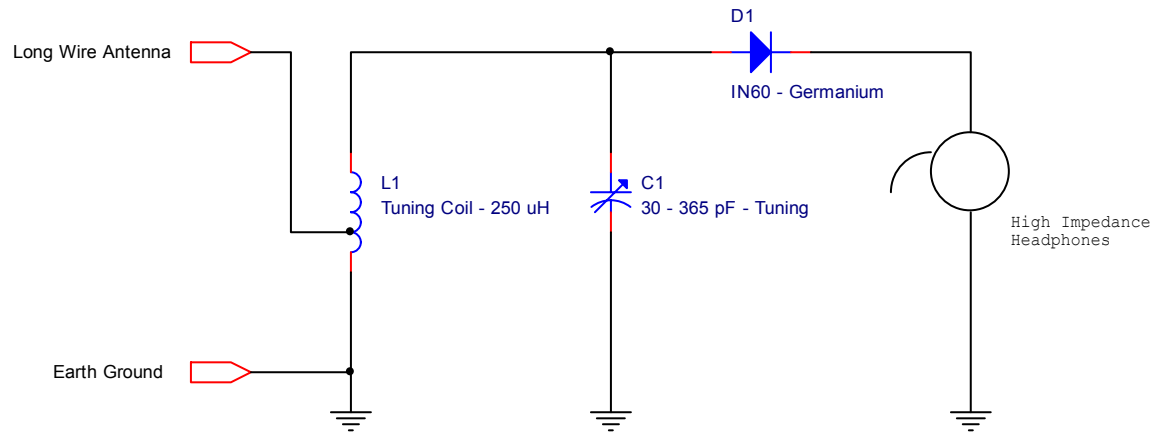

Figure 5-2 A Crystal Radio Receiver
These are the basic steps a receiver needs to perform. In simple radio receivers, some of the tasks can be omitted. For example, you may have built a *crystal radio receiver*. A crystal receiver uses only the energy from the incoming radio wave to produce the sound. A long wire antenna is usually required in order to receive sufficient signal. Figure 5-2 shows the schematic of one type of crystal receiver. There are thousands of different possible crystal receiver designs. Many active enthusiast groups build and study these simple receivers.
There isn't much to the circuit of Figure 5-2! A *long wire* antenna is connected to the upper input terminal. (A length of wire 50' or longer will work well.) The *earth ground* terminal must be connected to a good earth ground in order to provide an AC return path for the antenna signal. (A ground rod, or metallic cold water pipe could be used.)
What is the approximate tuning range of the receiver of Figure 5-2?
- 5-4 What steps of reception are performed in the circuit of Figure 5-2?
- 5-6 How does the end user control the frequency of the bandpass filter in the receiver of Figure 5-2?